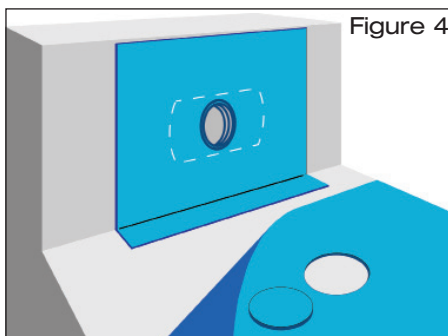

Figure 4
- 1.4 Spread out the factory-fitted **bituminous/EPDM compound** or **plastic** connecting sleeve and attach to the substrate. Do not allow creases to form. **Note: the connecting sleeve must not be damaged.** Unroll the **bituminous** or **plastic** vapour barrier sheet. Make a circular cut (Fig. 4) in the vapour barrier sheet in the region of the sliding flange